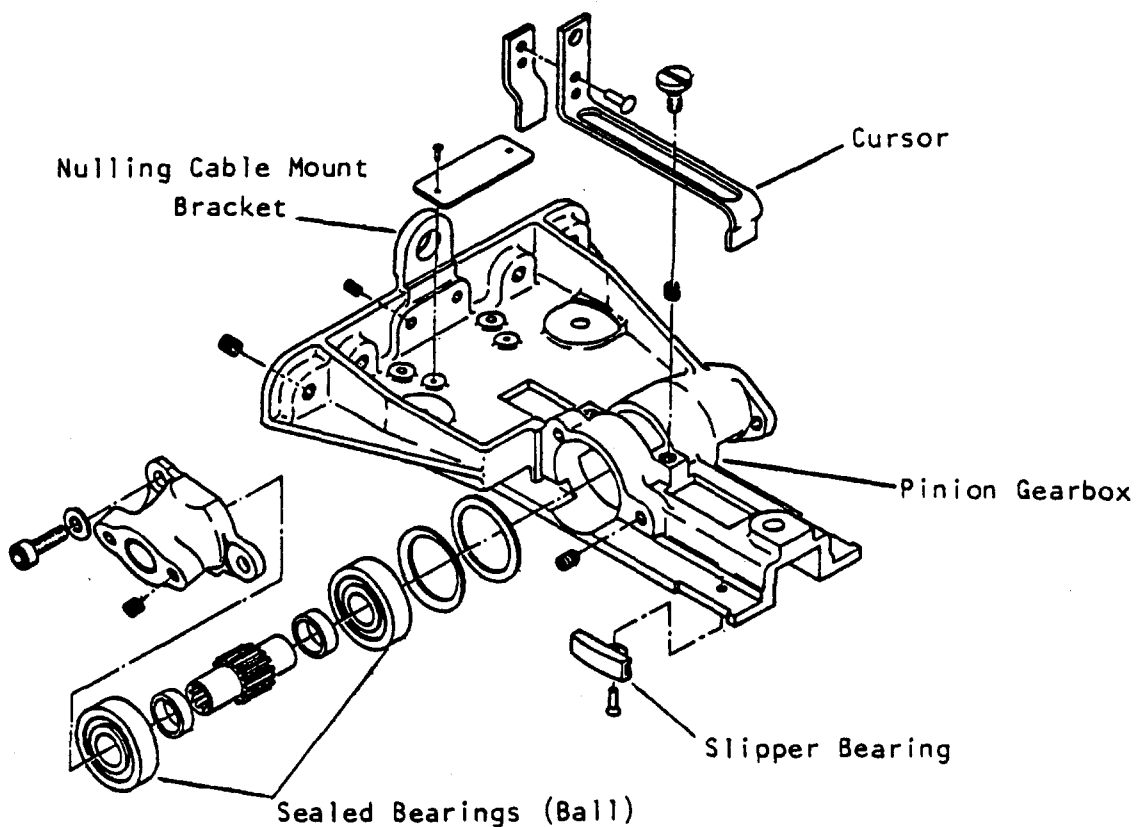

Figure 1 - Pinion Gearbox Assembly (Inboard Shown)
1. Description. A pinion gearbox (see Figure 1) is mounted at the 3 and 9 o'clock position on frame 6 of the aft nacelle. Each pinion gearbox incorporates a pinion gear which mates with the gear racks on each side of the translating structure to drive the translating structure to deploy when reverse thrust is required. The pinion gearboxes also support the translating structure and provide bearings (slipper) on which the translating beams slide during translation. The inboard and outboard pinion gearboxes cannot be interchanged because the inboard pinion gearbox has a nulling cable mount bracket cast into it and also provisions to mount a cursor. The cursor functions to position the nulling cable relative to gear rack travel.